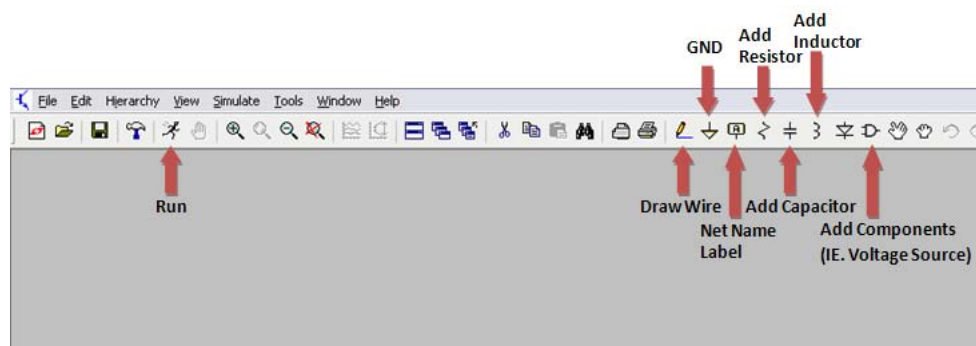

Figure 1.9: LTspice Top Menu
2. Look at Figure 1.9 to get a basic idea of the different menu icons.